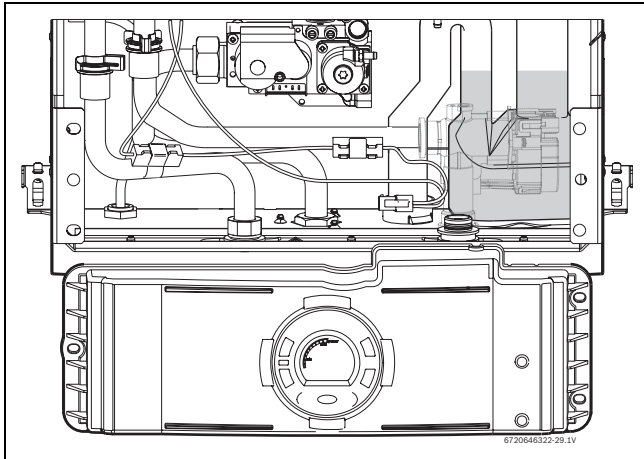

Fig. 74
- ▶ Put the control unit in service position by engaging its tabs with the holes in the bottom horizontal sheet metal (→ Fig. 74).
- ▶ Check water level in the condensate trap (→ Fig. 74).